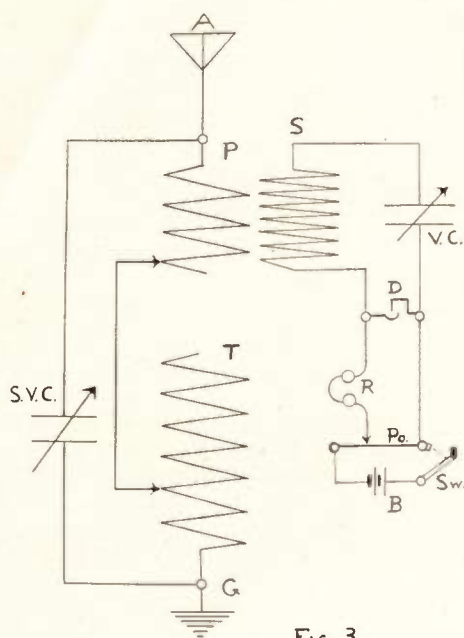

Fig. 3.
-FIG. 3-
braced by the larger arc (Fig. 3).
guyed to prevent swaying. A high tension insulator should be used to prevent leakage on each guy wire. The sending aerial is 20 ft. long, composed of 4 No. 14 aluminum wires on wooden spreaders. The aerial is supported between the two poles as shown in Fig. 3. Each wire of the aerial is insulated from the spreader by large porcelain cleats, and the spreader is insulated from its support in the same way. The right hand spreader is built as shown in the top of the drawing. This spreader has to carry both the sending and receiving aerials. It is fastened to a pulley on the pole so that it can be hoisted up and down very easily. Four insulators are fastened on one side and six on the other.
-FIG 3-